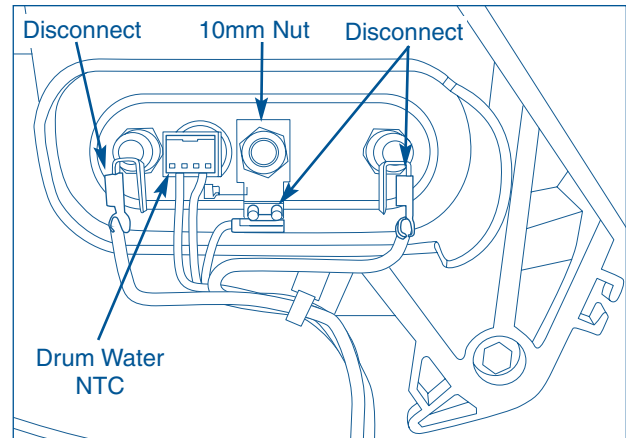

Figure 4-55.
2. Disconnect the wires from the heating element, drum water NTC (Negative Thermal Coefficient) and ground wire. (See Figure 4-55)